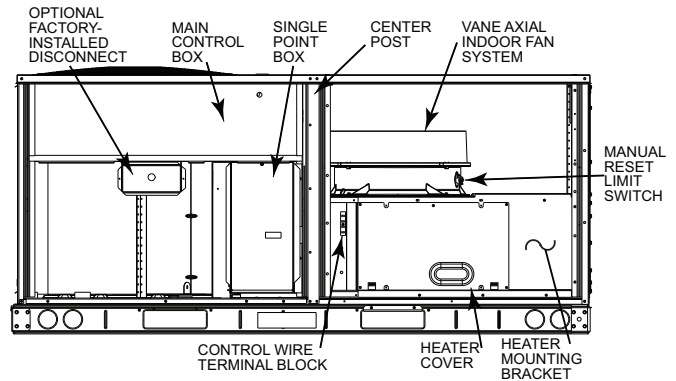
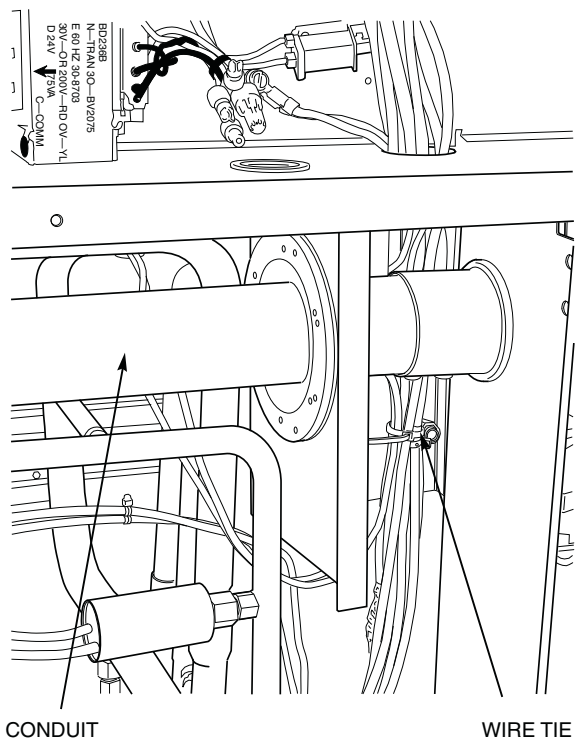

Fig. 5 — Typical Component Location
Fig. 9 — Typical Conduit Installation
4. Remove control box cover and center post. Save screws. (See Fig. 5.)
9. Secure the rainshield (conduit drip boot bracket) assembly to the back of the single point box with 2 of the screws provided. (See Fig. 5.) The channel portion of the bracket assembly extends to the top panel behind the control box. Secure all wires to bracket with field-supplied wire tie as shown. (See Fig. 9.)
6. Factory control wiring for heaters runs from unit control box to terminal block TB-4, mounted in the heater compartment to the left of the heater module. (See Fig. 5 and 13.) Connect the heater control wiring at TB-4.
Remove knockouts for appropriate size conduit from unit block-off panel and single point box. Install conduit (rigid or electrometallic tubing) through conduit drip boot as shown. (See Fig. 9.) Drip boot will accept conduit sizes 3/4-in. to 1 1/2-in. The drip boot eliminates the need for watertight conduit fittings at the single point box.